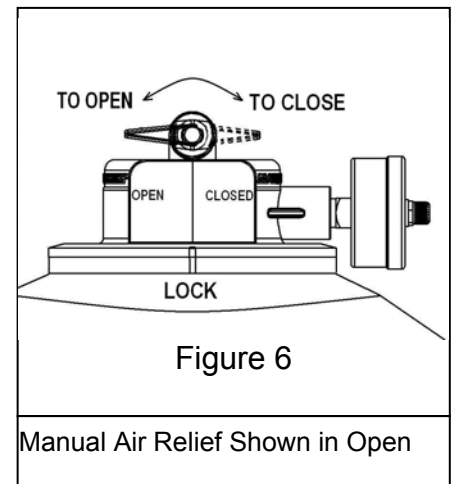

Figure 6
3. The manual air relief valve must be placed in the OPEN position. (Fig 6)